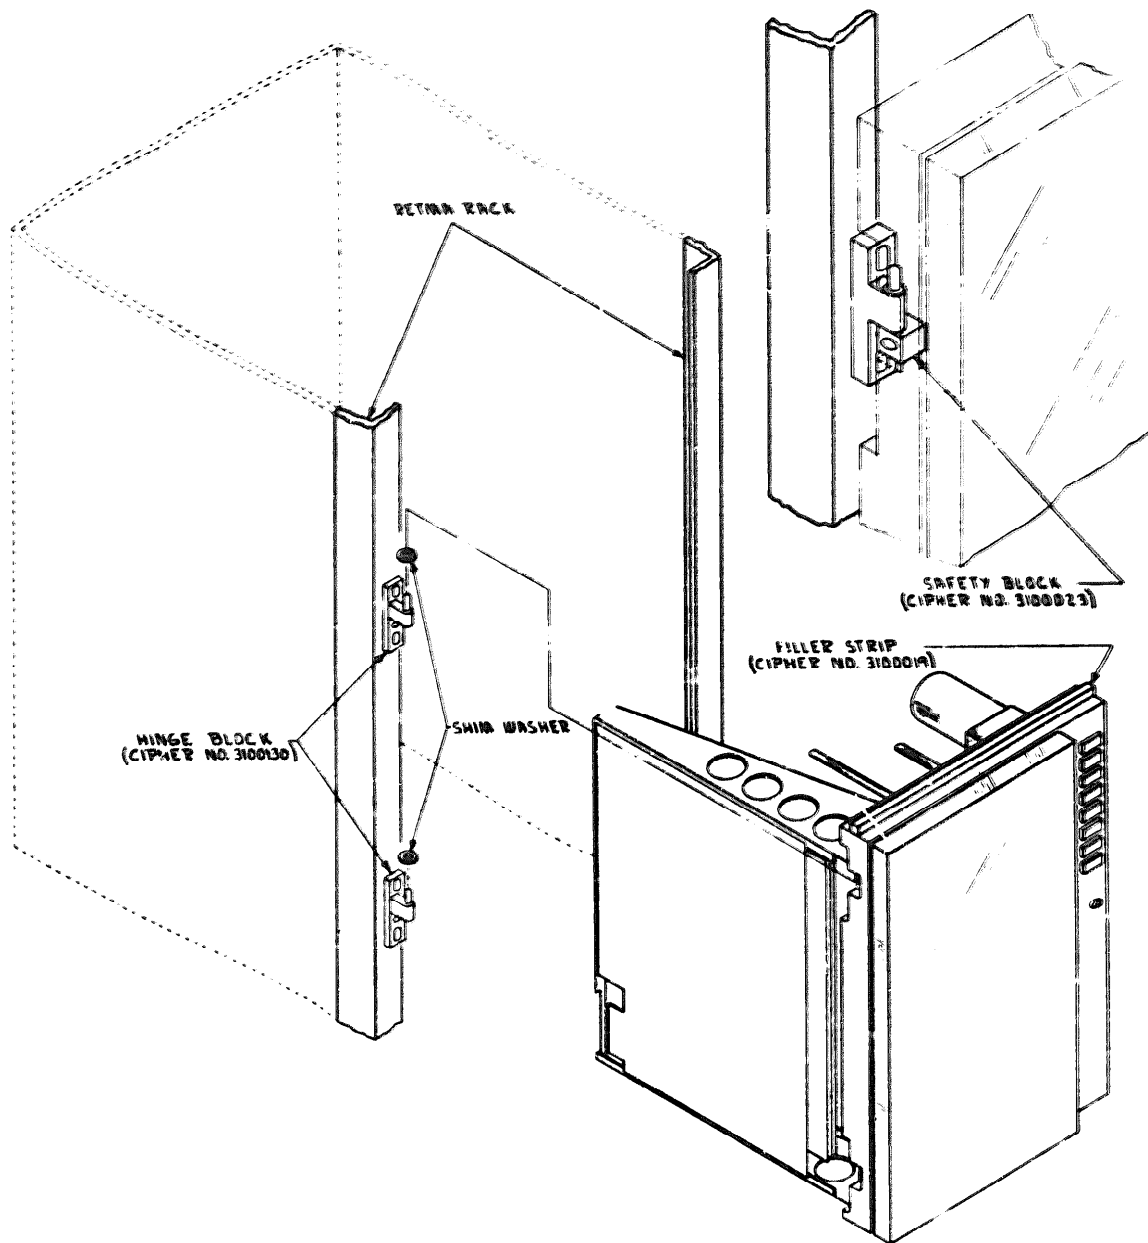

Figure 2-2. Installation
- c. Lift the recorder out of the shipping frame, position it 60 degrees from the closed position, and hang on the hinge pin blocks (see Figure 2-2).
- e. Open the recorder to 90 degrees and install the safety blocks, using 4-40 screws (see Figure 2-2).